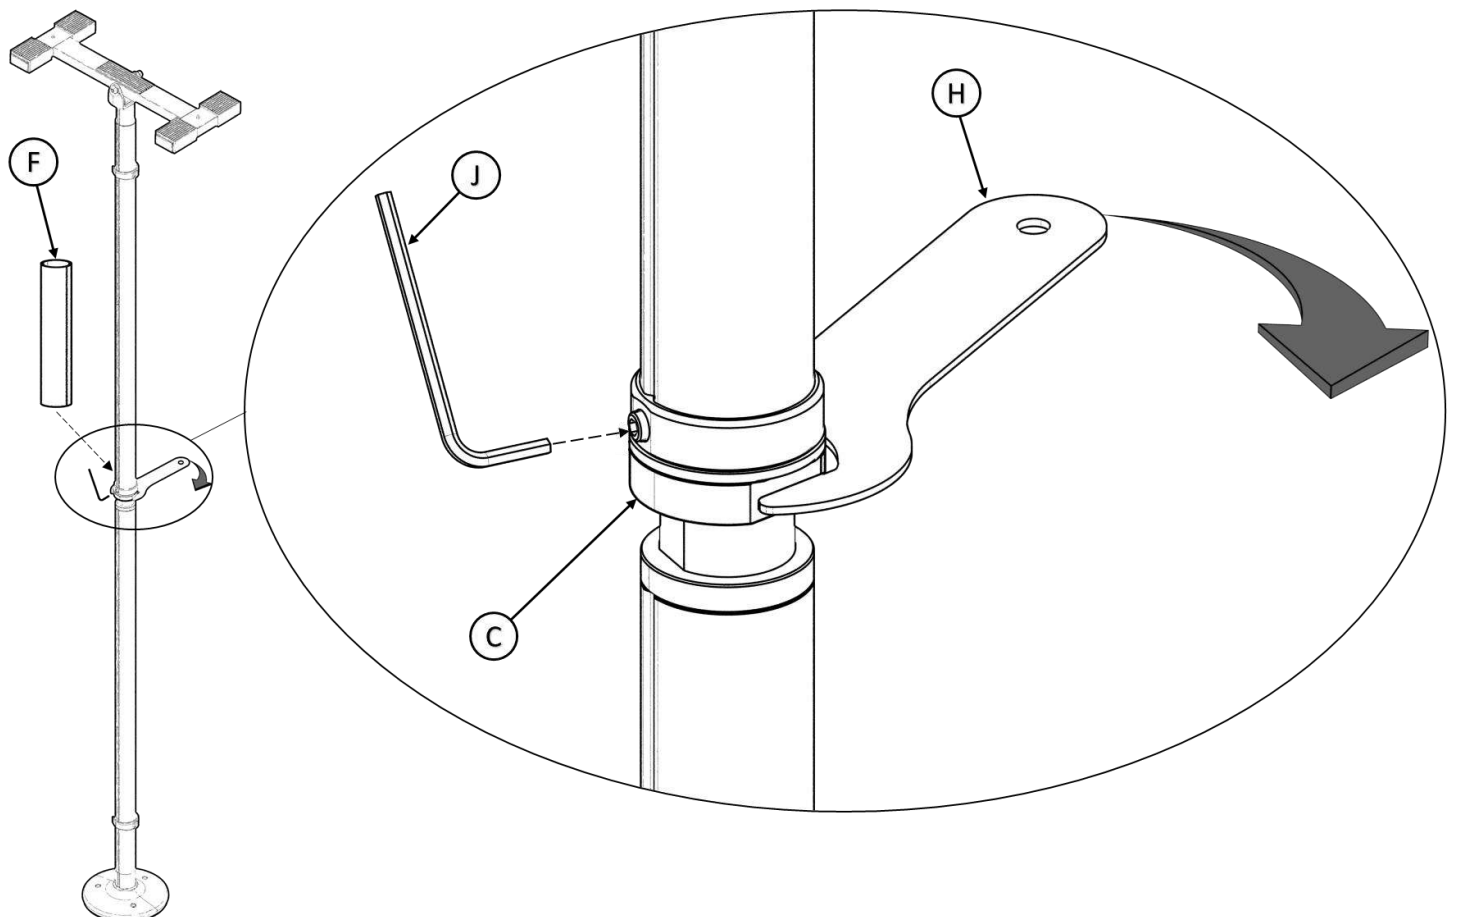

FIGURE 6
6. Making sure the Product is level, tighten the nut on **C** using **H** as shown in *FIGURE 6*, until the product is secured between the floor and ceiling with ABSOLUTELY NO sliding. Tighten set screw on **C** with **J** and cover area with **F**.